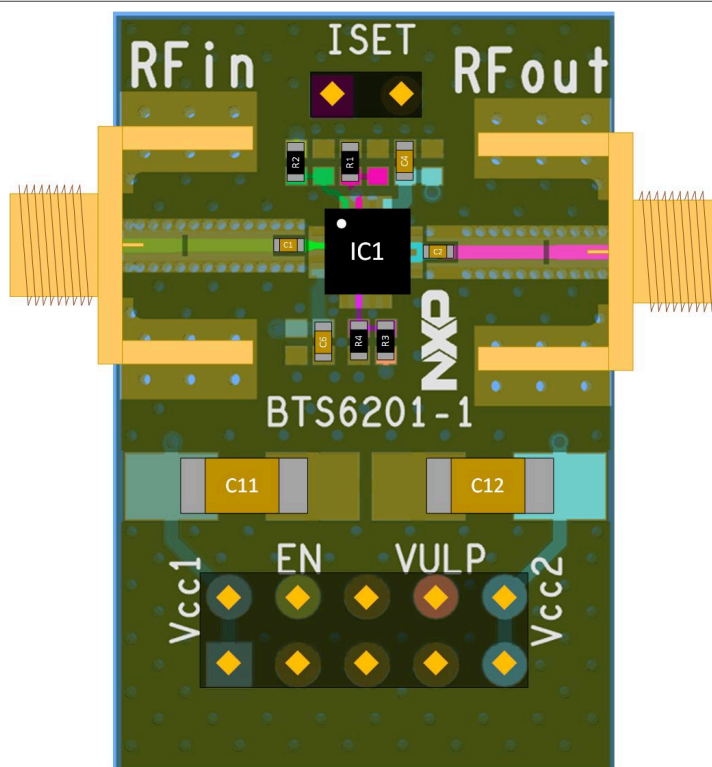

Figure 5. BTS6201U evaluation board layout and component placement
- Proper grounding of the GND pins is also essential for good RF performance. Either connect the GND pins directly to the ground plane or through vias, or do both, which is recommended. The layout and component placement of the BTS6201U evaluation board is given in Figure 5